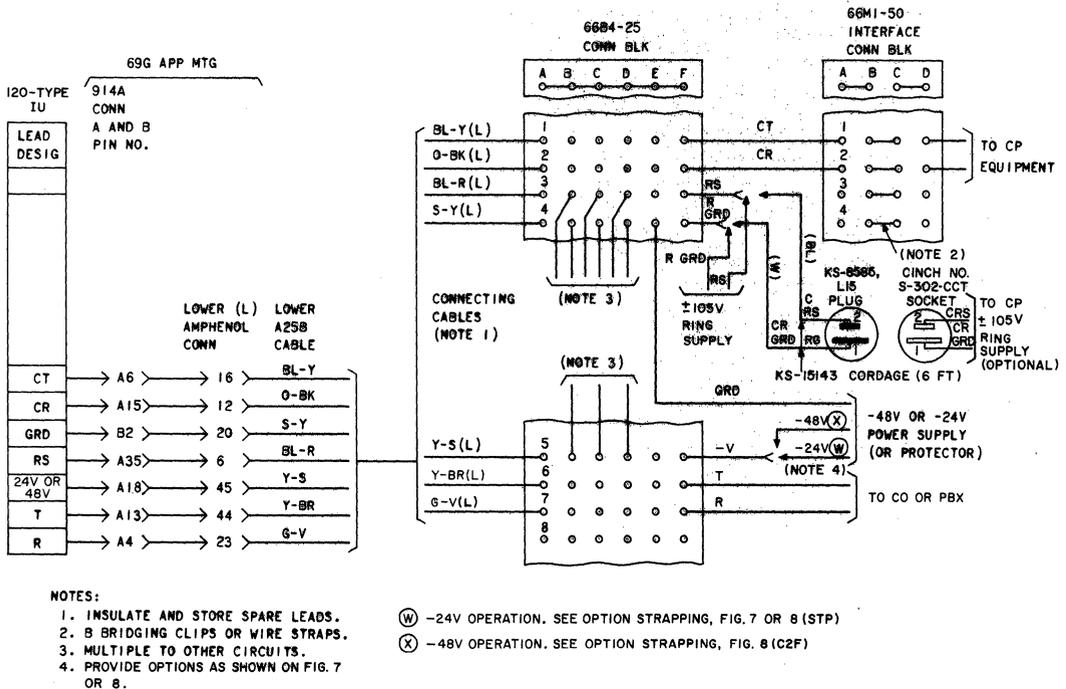

Fig. 2—Connection Diagram, 120-Type IU in 69G Apparatus Mounting
3.01 The 69G apparatus mounting should only be used to add a circuit at installations where mountings are already in place. Refer to Fig. 2 for connections. For new installations, the 615A panel is recommended.
- (1) If supply voltage is -24V, add option W to 120A, B, or C IU (STP only).
- (2) If supply voltage is -48V, add option X to 120B or C IU (C2F only).
- (3) Connect supply voltage to 66B4-25 connecting block (Fig. 2).